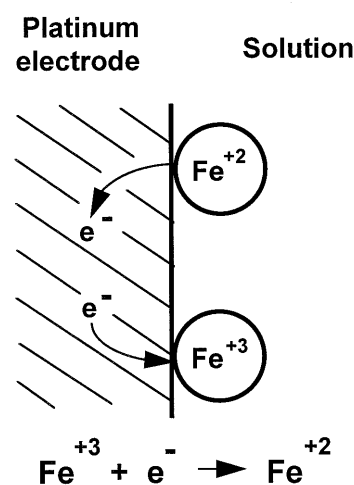

FIGURE 13-5. Electrode Potential.
Figure 13-5 shows a platinum ORP electrode in contact with a solution of iron (II) and iron (III). As discussed earlier, iron (II) and iron (III) are a redox couple. They are related by the following half reaction: